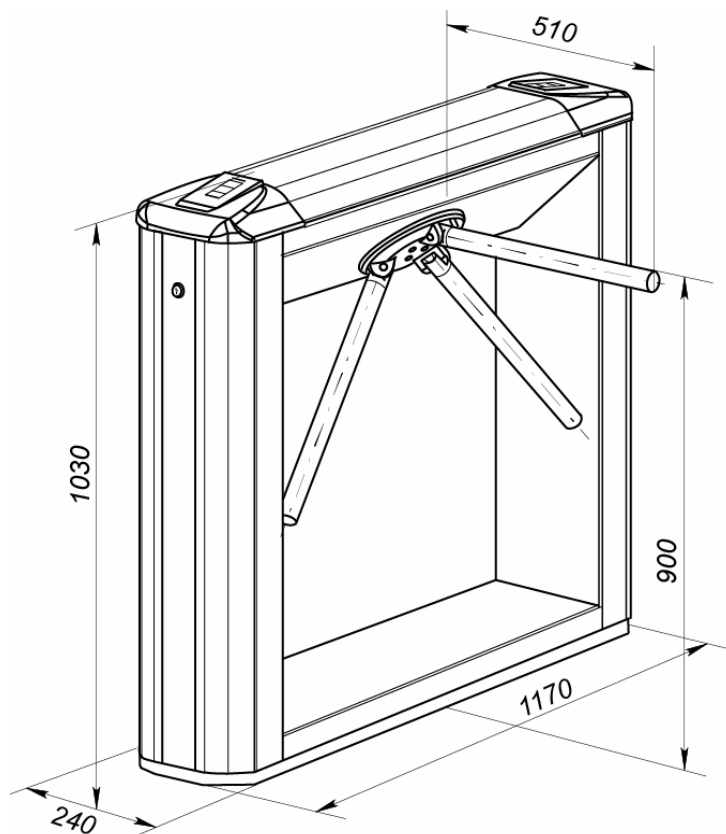

Fig. 1. Overall dimensions of the TBC-01.1A turnstile
The turnstile housing is fixed to floor with 4 anchor bolts through holes in the turnstile housing base (2). The overall dimensions of the turnstile housing are shown in Fig. 1.